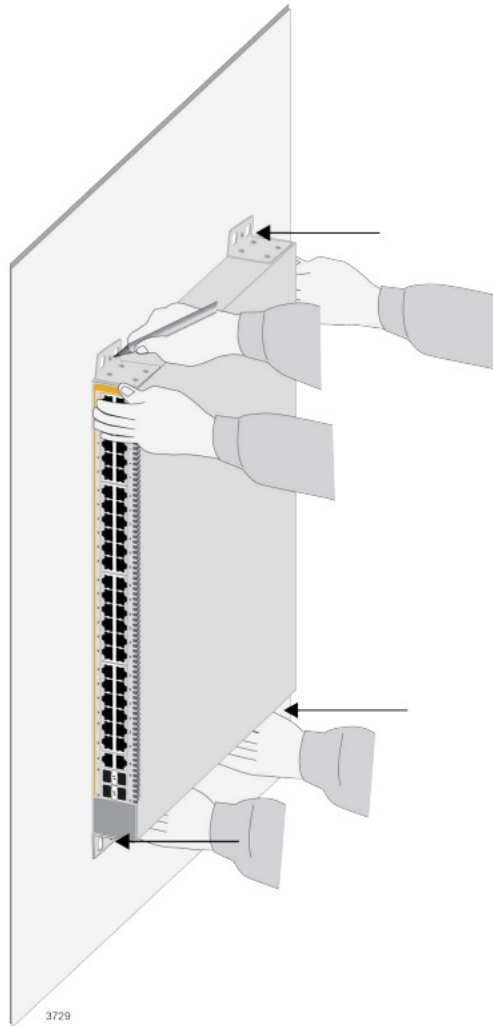

Figure 51. Marking the Locations of the Bracket Holes on a Concrete Wall
3. Have two people hold the switch on the concrete wall at the selected location for the device while you use a pencil or pen to mark the wall with the locations of the four screw holes in the four brackets. Refer to Figure 51 on page 108.